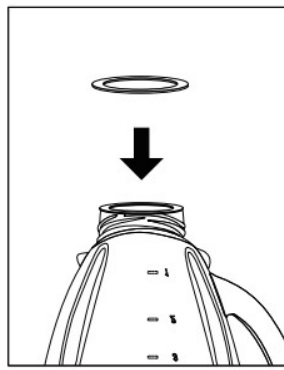

Figure 2
2. Place sealing ring over the small opening of the jar. (Figure 2)